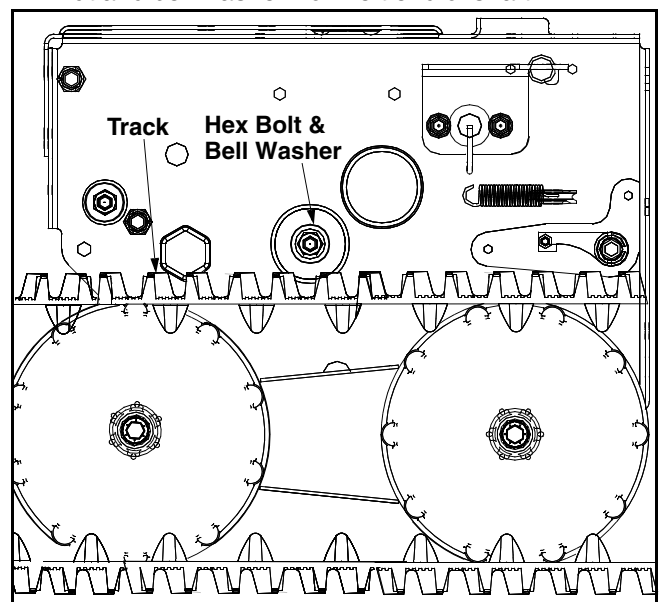

Figure 18
- Using a 7/8" wrench to hold the shaft, loosen, but do not completely remove, the hex bolt and bell washer on the left end of gear shaft. See Figure 18.